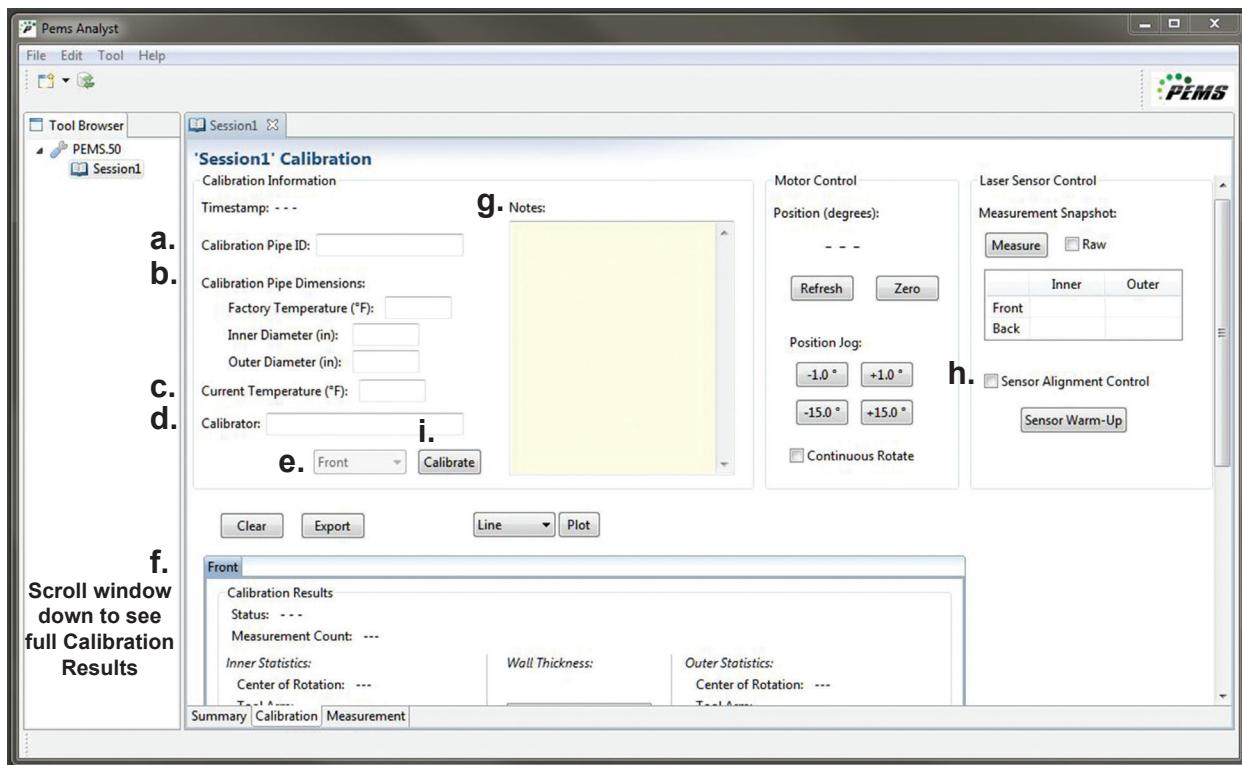

**Figure 2-16 - Measurement Session Summary**
1. In the Tool Browser, open (double-click) the Measurement Session you created. This opens the Measurement Session Summary. See fig. 2-16